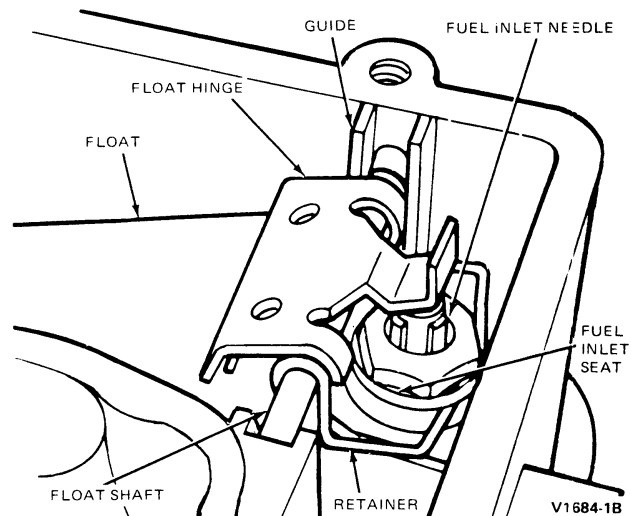
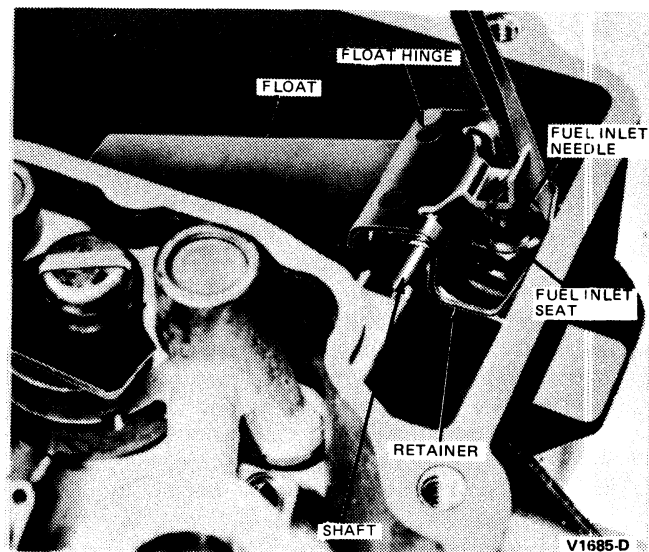

FIG. 25 Float Assembly
FIG. 26 Removing or Installing Float Shaft Retainer
2. With the use of a screwdriver, pry the float shaft retainer from the fuel inlet seat (Fig. 25). Remove the float, float shaft retainer and fuel inlet needle assembly (Fig. 26).
1. Using screwdriver, pry the float shaft retainer from the fuel inlet seat (Fig. 25). Remove the float, float shaft retainer and fuel inlet needle assembly. Remove the retainer, float shaft and float damper spring (if so equipped) from the float lever (Fig. 26)